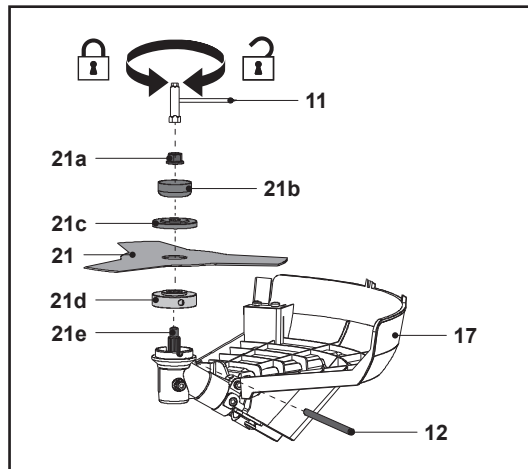

Fig. 6
2. Insert the spindle lock rod (12) into the hole to lock the spindle (21e).
3. Loosen the trimmer head (18) clockwise by hand and remove it together with the locking flange (21c).
4. Fit the cutter blade (21) onto the spindle (21e). Ensure that the cutter blade (21) sits flush on the extruded ring on the backing flange (21d).
5. Place the locking flange (21c) onto the cutter blade (21).
6. Secure the cutter blade (21) by tightening the nut (21a) counter-clockwise using the supplied multi tool (11) and spindle lock rod (12).
7. Remove the multi tool (11) and the spindle lock rod (12).
8. Remove the blade protector (21f) (if provided) from the cutter blade (21) before operation (Fig. 6).